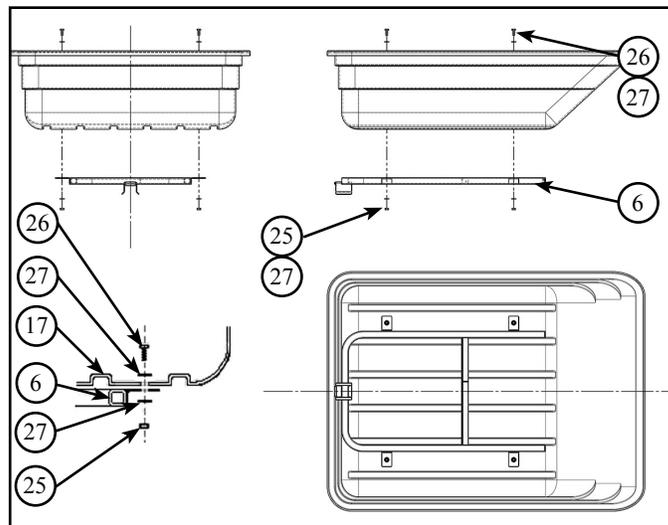

Figure 3.3 - Bed Frame Alignment
3. Have the assistant hold a bolt (26) and washer (27) through the inside of the bed (17). Refer to Figure 3.3
4. Align the bed frame with the bottom-side of the wedge and the inserted bolt. Refer to Figure 3.3
5. Install a washer (27) and nut (25), hand tighten. Refer to Figure 3.3
2. Ensure gas spring bracket flange is located on the same side as the bed frame mounts. Insert bolts (24) and washers (27). Refer to Figure 3.3